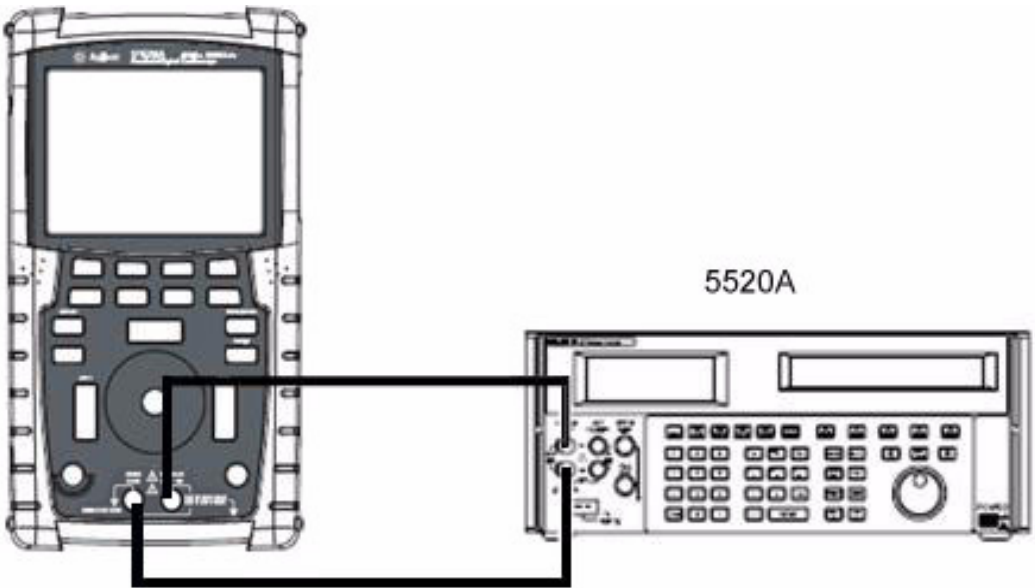

Figure 7-2 Test connections from calibrator to instrument
- 4 Connect the calibrator to instrument's input and ground terminal as shown in Figure 7-2 using a banana plug.
- 4 Connect the calibrator to the instrument's input and ground terminal as shown in Figure 7-2 using a banana plug.
- 4** Connect the calibrator to the instrument's input and ground terminal as shown in Figure 7-2 using banana plug.